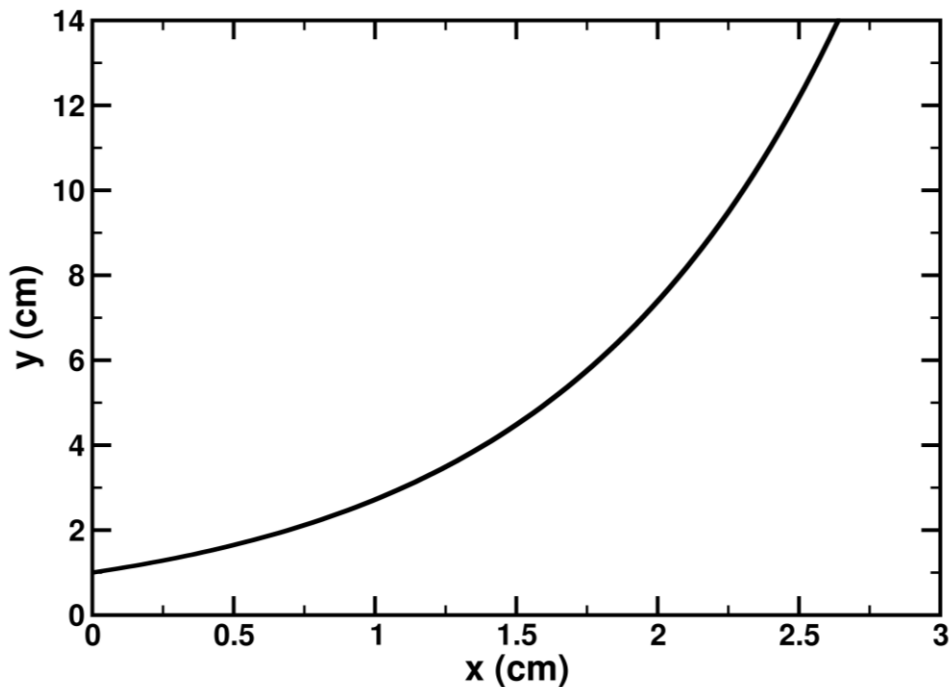
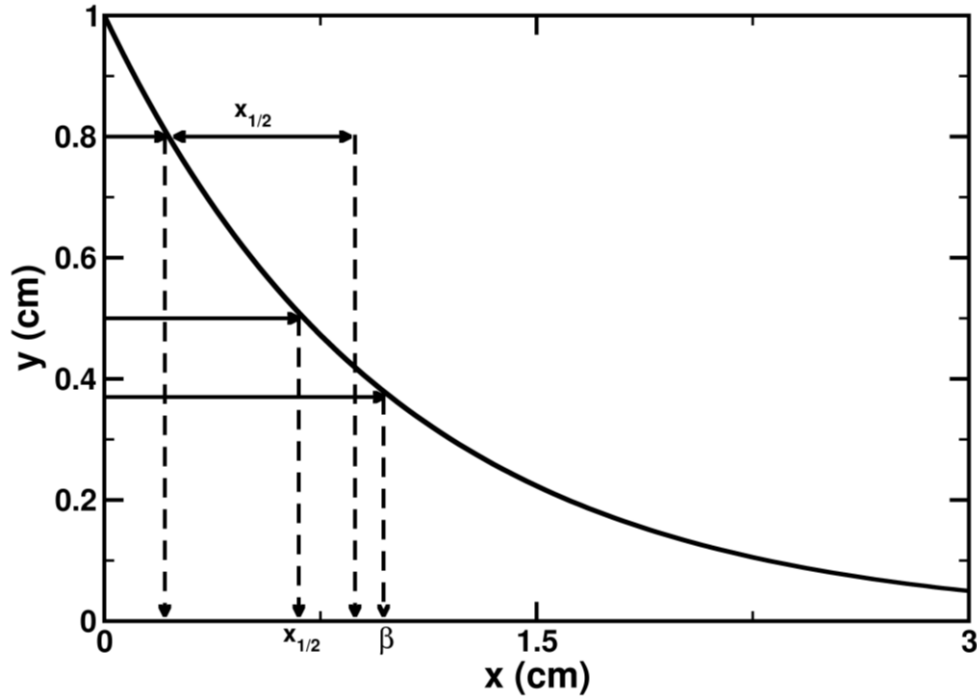

Figure 5: Exponential growth, $y = y_0 \exp(kx)$. $y_0 = 1$ and $k = 1$.
Figure 6: Exponential decay. $y = y_0 \exp(-kx)$. $y_0 = 1, k = -1$.
Figure 5 is a plot of an exponential growth function $y = y_0 e^{+kx}$, where y_0 is the value of y at $x = 0$, and k is a constant of units cm^{-1} .
Figure 6 is a plot of an exponential decay function, $y = y_0 e^{-kx}$. Where y_0 is the value of y at $x = 0$, and k is called *the decay constant*. In this case the units of k is cm^{-1} . Note also that the exponent kx is a pure number without units. You can see from the graph of the decay function that when $x = \infty$, y goes to zero.
Since $\beta = \frac{1}{k}$ implies that $x_{1/2} = \beta \ln(2)$. Notice in Figure 6 how $x_{1/2}$ and β are found.
- By plotting a graph of y vs. x using a linear graph paper as shown in Figure 5, the value of β can be found directly from the graph. Recall β is the value of x at which $y = 0.37 y_0$ which occurs at $x = 1$ cm. Therefore $\beta = 1$ cm, and $k = 1/\beta = 1 \text{ cm}^{-1}$. $x_{1/2}$ can be found either from the formula derived earlier ($x_{1/2} = \beta \ln(2) = 0.693$) or directly from the graph, which is about 0.68 cm.
- By plotting a graph of y vs. x on a semi-log graph paper. In a semi-log graph paper, one axis has an ordinary scale while the other axis has a log scale in which the spacing between the divisions is proportional to $\log y$. This is of great convenience because it makes it unnecessary to look up in a table of $\log y$. The graph paper automatically assigns the points at positions corresponding to $\log y$. Figure 6 is a plot of the same data as in Figure 5 but using a semi-log graph paper. In this case the y-axis will be a log scale while the x-axis is a linear scale.
$\ln(y) = \ln(y_0) - kx$. The latter equation will be a linear equation if plotted in $\ln(y)$ vs. x graph. The y-intercept will be $\ln(y_0)$ and the slope will equal to $-k$. This means that the data obtained from an exponential decay process will be linear on a semi-log graph paper because as we said earlier, the y-scale in the semi-log graph automatically plots the points corresponding to $\log y$. The slope of the line in Figure 6 is